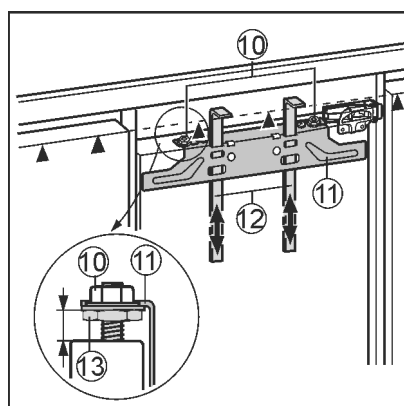

Fig. 17
- ▶ Raise the fitting aids Fig. 17 (12) to unit door height. Bottom stop edge of ▲ the fitting aid = top edge of the unit door to be fitted.
- ▶ Unscrew the crosspiece Fig. 17 (11) by undoing the locknuts Fig. 17 (10).